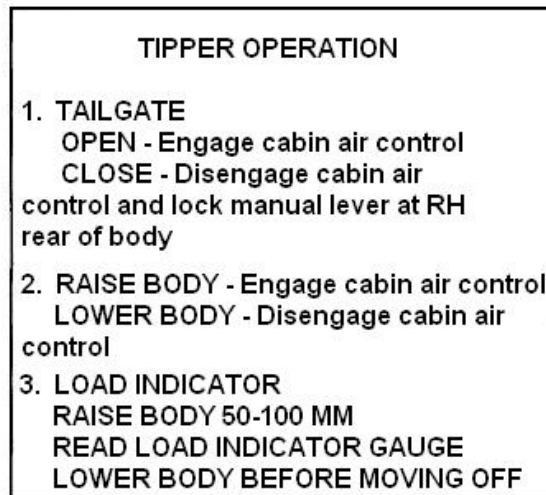

Figure 10 Operation Plate
20. The dump system is controlled from the air switch in conjunction with the procedures listed on the operation plate mounted in the cabin (Figure 10).